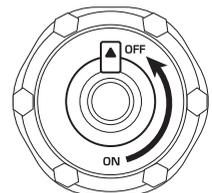

Fig. 4
7. After the generator stops, allow it to cool down and close the vent (set to OFF, as shown in Fig. 4).